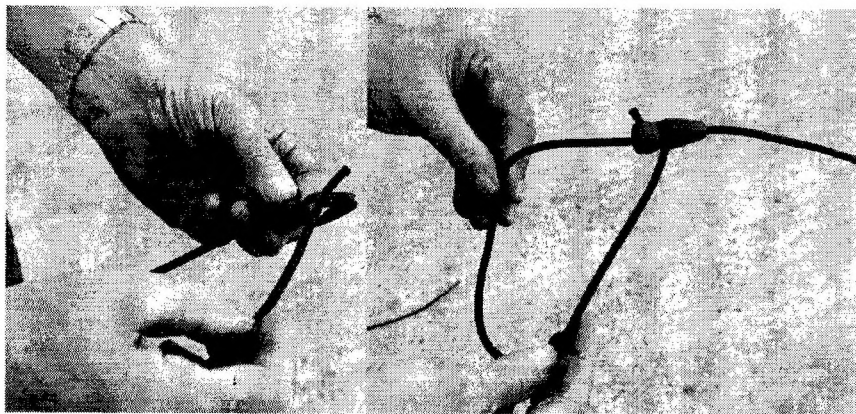
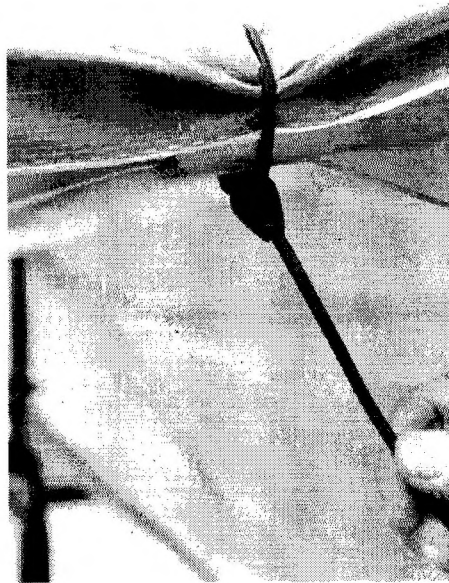

Fig 13 Tensioner loose and locked
Fig 14 Tensioner
12.1 The tensioners are fitted by passing the loose end through the centre of the clip, pulling the tail to tension, then still under tension laying the tail into the jaws and end opening of the clip before releasing the tension to secure; the remaining tail should continue round and be reinserted through the centre of the clip to double secure. To release pull the tail to tension' lift the loose cord out of the clip, and release. Tensioner tails should pass through the insulation from the inside and be secured around the tent frame. Fig 13 and Fig 14